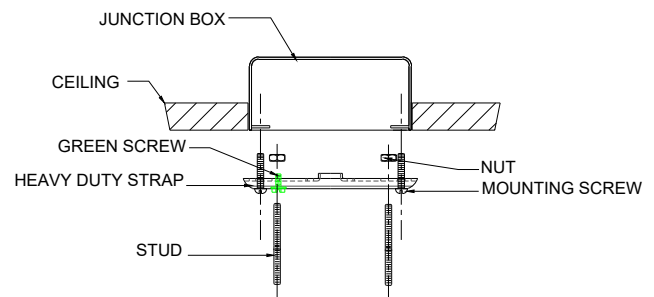

FIGURE-01
1. Attach the heavy duty strap to the junction box. (The green screw should face the floor). Adjust the threaded stud so they extend 3/16" beyond the canopy. (See FIGURE-01.)